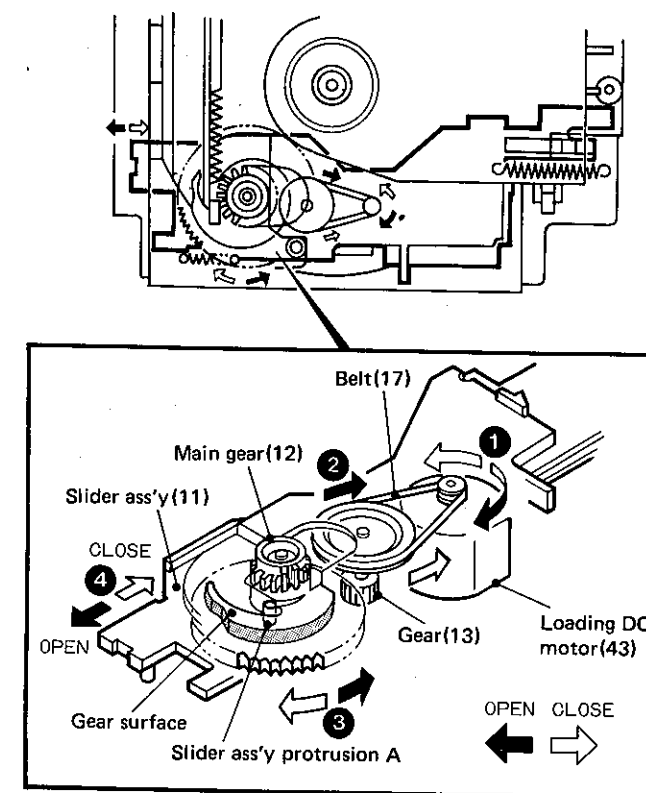

Fig. 2 Loading motor rotation transmission
As shown in Fig. 2, loading DC motor (43) rotates in the direction of the black arrow ① and transfers the rotation of the black arrow ② to the gear (13) via the belt (17), and also rotates the main gear (12) in the direction of the black arrow ③ with the lower gear section of the gear (13). The main gear (12) contains the cam on its upper surface. Along with the surface of the cam, protrusion A located in the lower side of the slider ass'y (11) is shifted and the slider ass'y (11) begins to move in the direction of the black arrow ④.